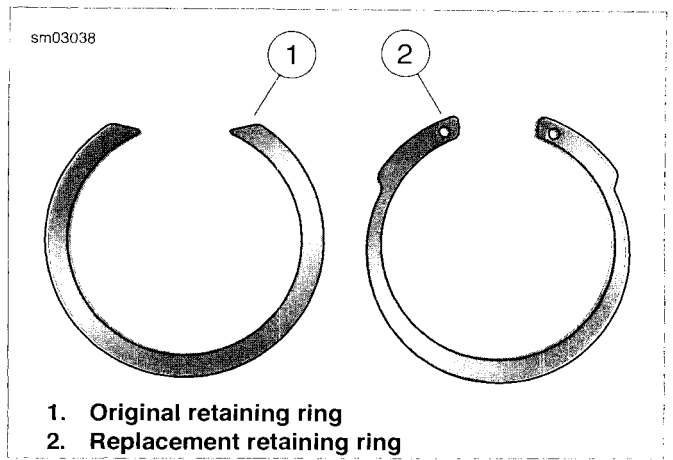

Figure 6-37. Main Drive Gear Retaining Rings
- See Figure 6-37. When replacing needle bearings, discard original retaining rings (1) and install replacement retaining rings (2).